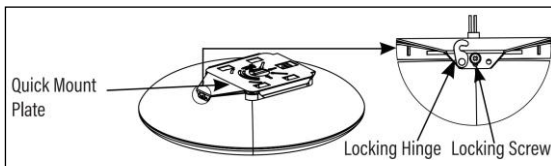

Figure 3.1
3. Surface Mount (SM) Installation for Canopy/Garage
- Unpack the fixture. Loosen (do not remove) the Locking Screw. Pivot the Locking Hinge counterclockwise. (Fig. 3.1)